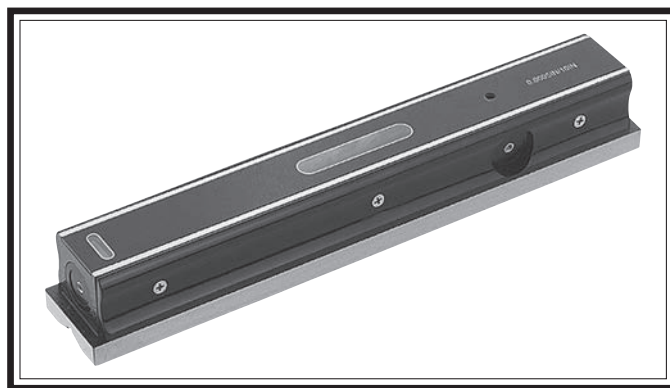

Figure 8. Example of a precision level.
13. Place a precision level (see **Figure 8**) on the table surface and adjust the feet studs until the machine is perfectly level in the X- and Y-axis, then tighten the jam nuts. Recheck after 24 hours, and again in two weeks.